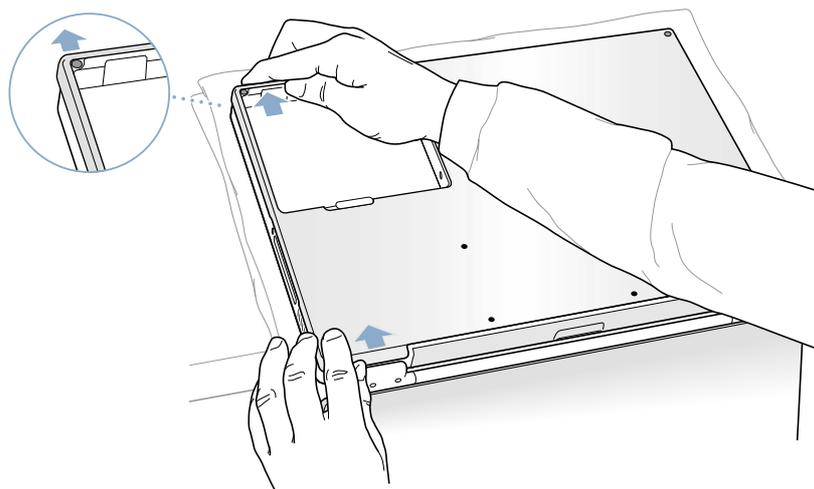

Figure 4
8. Place your hands on the bottom case as shown (**Figure 4**) and push away from you until the left side releases.